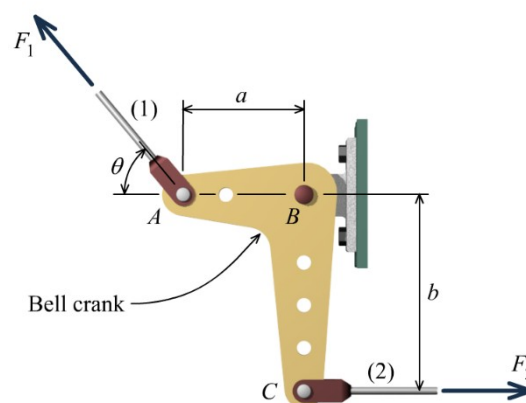

FIGURE P1.31
P1.31 The bell crank shown in Figure P1.31 is in equilibrium for the forces acting in rods (1) and (2). The bell crank is supported by a 10 mm diameter pin at B that acts in single shear. The thickness of the bell crank is 5 mm. Assume $a = 65$ mm, $b = 150$ mm, $F_1 = 1,100$ N, and $\theta = 50^\circ$. Determine the following: